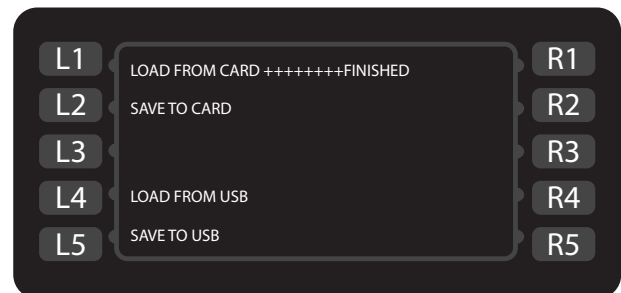

Figure 28: Loading...Finished
3. Verify the oven beeps and reads “FINISHED” (Figure 28, page 16).